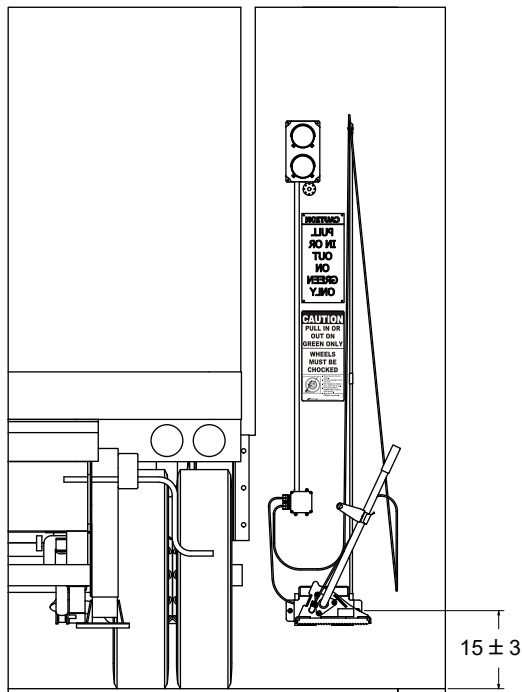

Figure 8
- a. Recommend 12"-18" from the drive to the bottom of the bracket. See Figure 8.
- Locate 12" to 18" off the drive to the bottom of the bracket. See Figure 8.
5. Fiberglass Rod and Chock Sensor Cable. See Figure 8.
- a. Place the J-box, supplied in the UniChock kit, onto the building wall. See Figure 8.